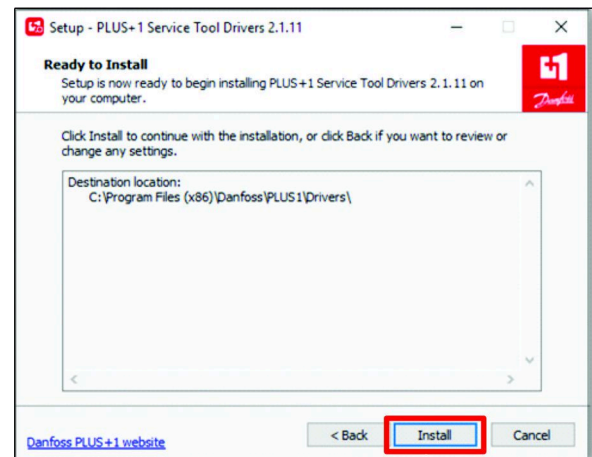

Figure 30
2. In the Ready to Install dialog box, click the INSTALL button (Figure 30).